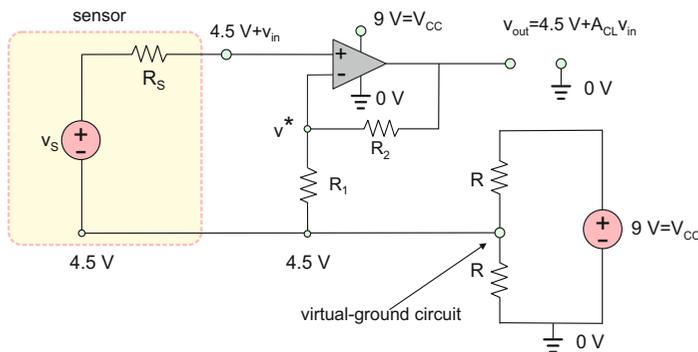

Fig. 5.27. A non-inverting amplifier driven by a single voltage supply, a battery. Absolute voltages versus ground (negative terminal of the battery) are shown.
A single voltage supply is a battery. We consider the non-inverting amplifier circuit driven by a 9-V battery. To handle the problem of not being able to generate negative voltages, a *virtual-ground circuit* may be used as shown in Fig. 5.27. We simply divide the voltage of the battery by two, with two large, equal resistances  $R$ , and assign this voltage of 4.5 V to the common port. The battery terminal voltages then formally become  $\pm 4.5$  V versus the common port. The power supply so constructed is unfortunately not exactly the dual-polarity voltage power supply. Namely, both resistances  $R$  have to be large to avoid ohmic losses in the virtual-ground circuit. If they are, we cannot source/sink an appreciable output current into the common terminal since these resistances simultaneously operate as current limiters. An alternative solution is to reference the output to ground (which is the negative terminal of the battery), but not to the *virtual ground* of 4.5 V. When referenced to ground, the circuit in Fig. 5.27 has one remarkable property. Namely, if the input vs. ground is the (small) sensor voltage  $v_{in}$  plus 4.5 V, then the output vs. ground is the amplified sensor voltage,  $A_{CL}v_{in}$ , plus the *same* 4.5 V offset. In other words, the offset voltage of the virtual ground is not amplified! This statement is proved in the following example.
**Example 5.9:** Solve the circuit in Fig. 5.27.
Feedback resistances  $R_1, R_2$  should be much larger than resistance  $R$  in Fig. 5.27, in order to assure a flawless circuit operation. Yet another solution is to use (Zener) diodes in the bias circuit. Special *virtual-ground integrated circuits* exist that support single-supply amplifier operation. They generate an output precisely midway between the two supply rails.